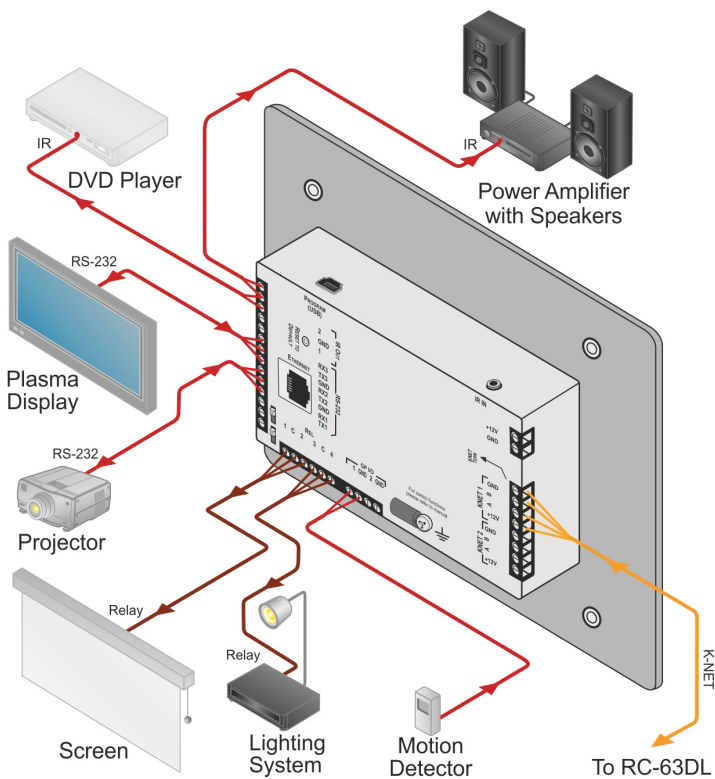

Figure 3: Connecting the RC-74DL Master Room Controller
To connect¹ the **RC-74DL**, as shown in the example in Figure 3, do the following:
5. Connect the Ethernet port to a network (not shown in Figure 3).